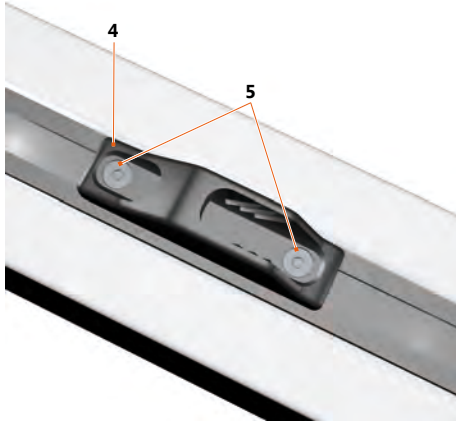

Fig. 67: Clamp
4. Install the cord pull (13) using the two screws at the front end of the bracket to give you the best possible leverage.
5. The swivel cord is guided to the supplied deflector in the area of the foot controller, and is rerouted there. The swivel cord is then run approx. 40 cm back to the supplied clamp, which is installed in the slotted rail (see Fig. 67: Clamp).